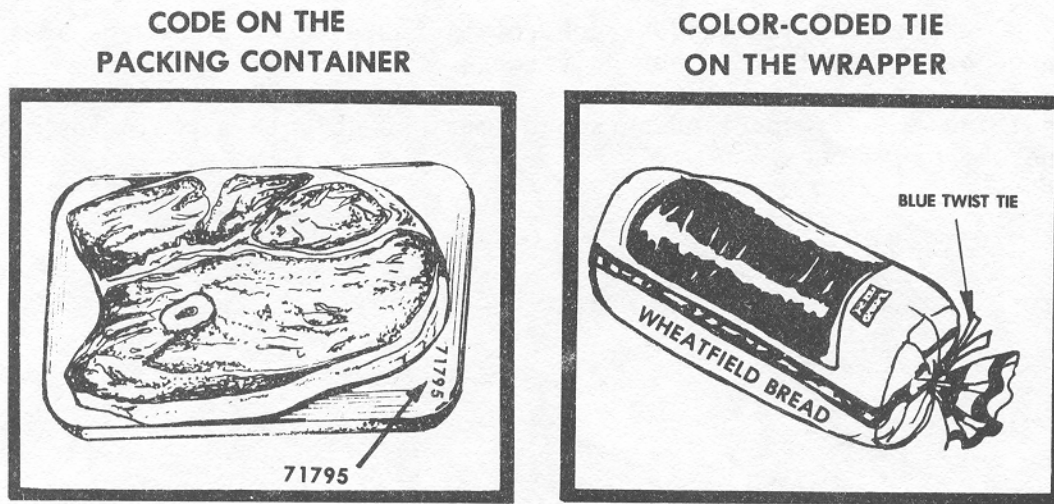

Figure 6-1. Location of manufacturer's code.
b. **Location of Codes**. The inspector must be able to locate the product code on the product's outer covering (packaging). Sometimes this is not easy to do. (See figure 6-1.)
(1) Code book. If the product's code is not easily located, the inspector can look in a code book or in a data base on the Intranet. The manufacturer's code book may be kept in the veterinary food inspection office.
(2) Packing container. The product code may be placed on the packing container instead of on the outer packaging. For example, pork loins are not individually marked because the code appears on the packing.